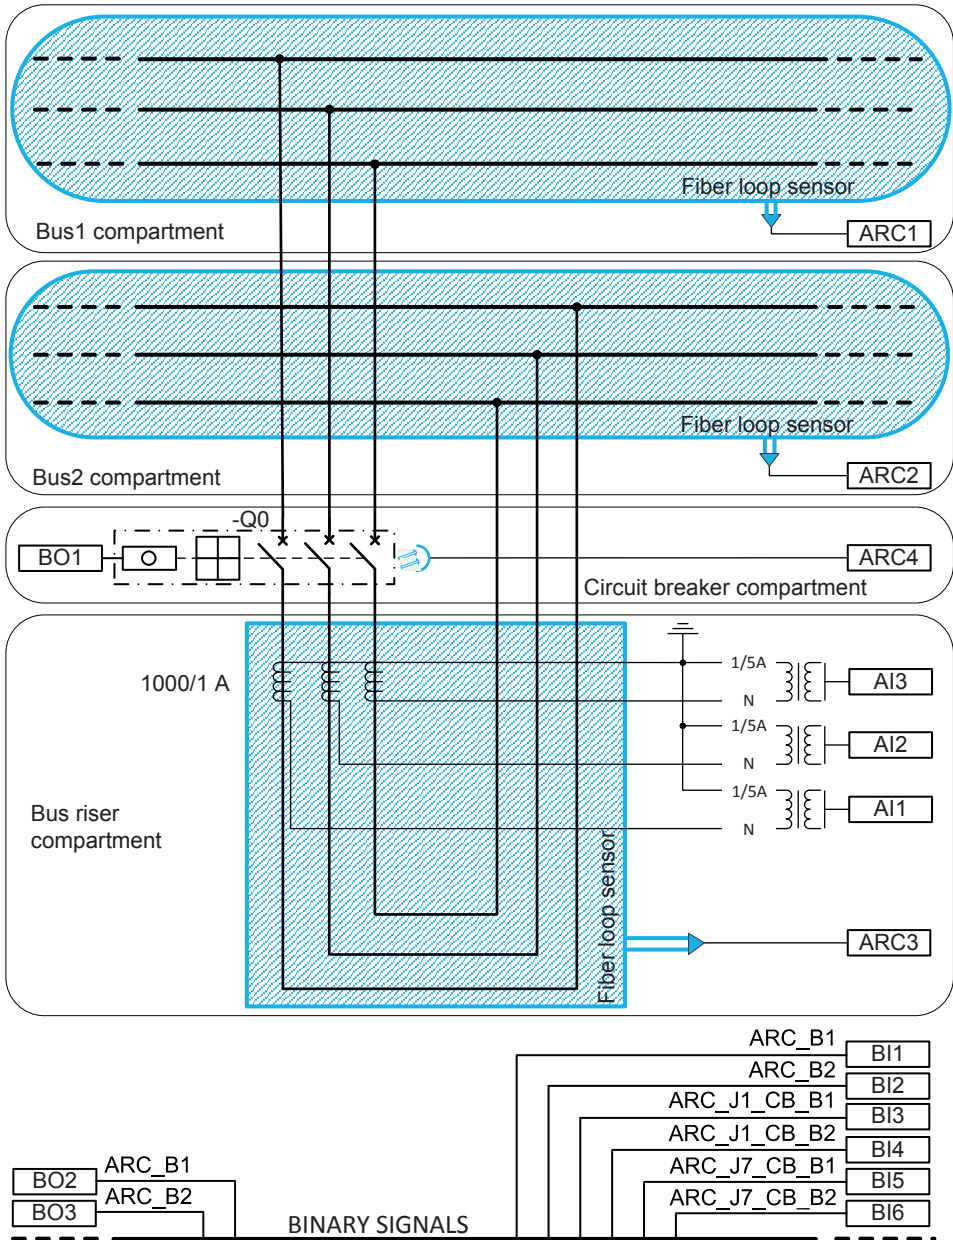

Figure 69: Connection diagram for the bus coupler +J4
Figure 69 shows the binary inputs (BI), binary outputs (BO), analog input (AI) signals and ARC inputs.